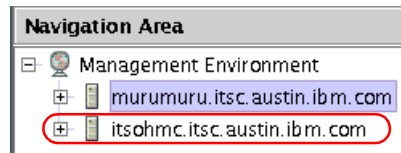

Figure 7-28 Remote HMC is shown in the Navigation Area
4. The added HMC will be shown in the Navigation Area of Web-based System Manager as shown in Figure 7-28.